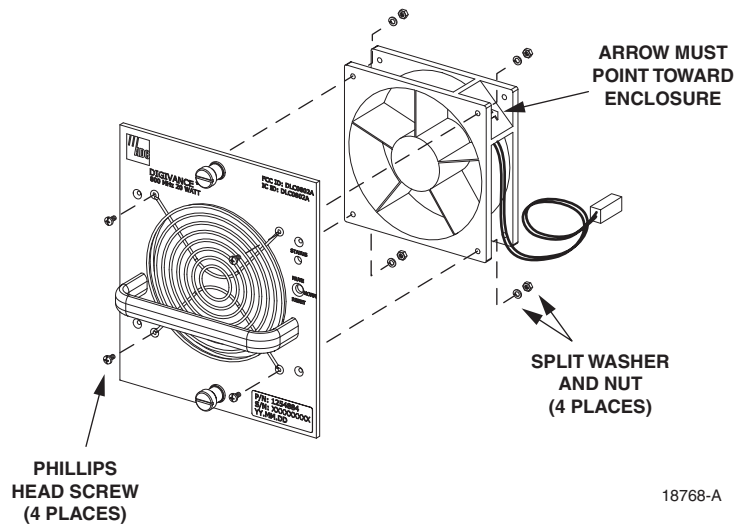

Figure 5-8. Removing LPA Fan From Front Panel
8. Remove the screws, split-washers, and nuts that secure the fan and grill to the LPA front panel as shown in Figure 5-8.